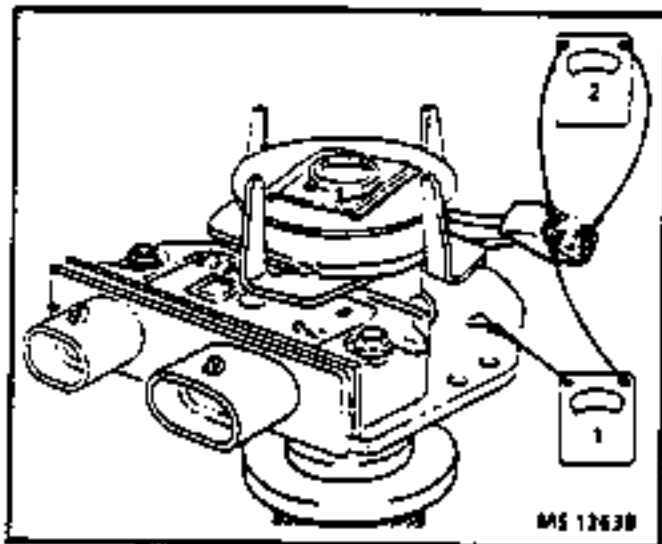

Figure 15- Testing the Pickup Coil
- Connect an ohmmeter to either pickup coil lead and the housing as shown in Figure 15, Step 1. The reading should be infinite. If not, replace the coil.
- Connect an ohmmeter to both pickup coil leads as shown in Figure 15, Step 2. Flex the leads by hand at the coil and the connector to locate any intermittent opens. The ohmmeter should read a constant unchanging value in the 500 to 1500 ohm range. If not, replace the coil.